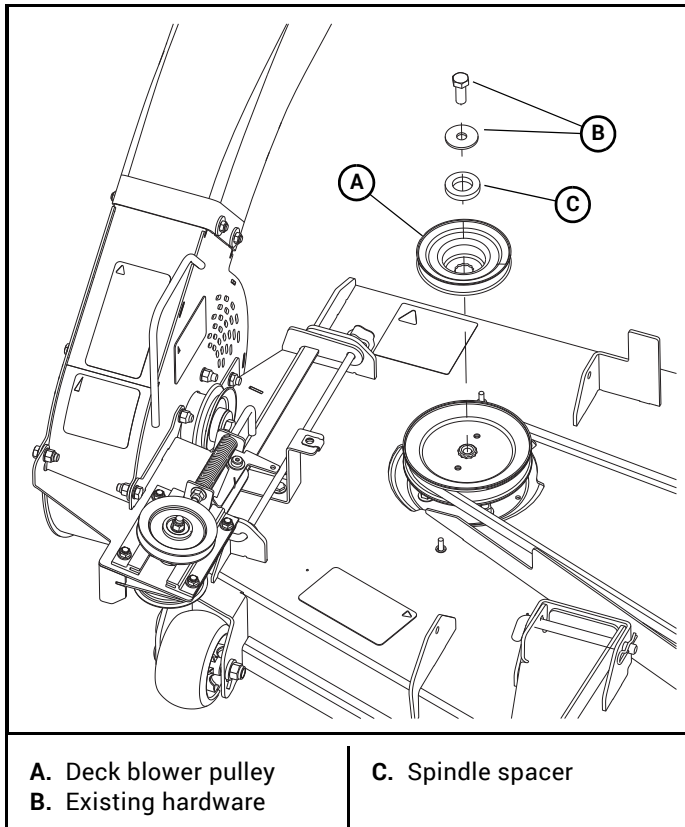

Figure 3-11
17. Install the deck blower pulley. Use the 4.5" pulley for the 60" deck. Use the 3.5" pulley for the 54" and 48" decks. **NOTE:** The provided spindle spacer is used on 48" and 54" decks only, use the existing spindle spacer on the 60" deck. Torque the bolt to 65–75 ft.-lbs. Figure 3-11